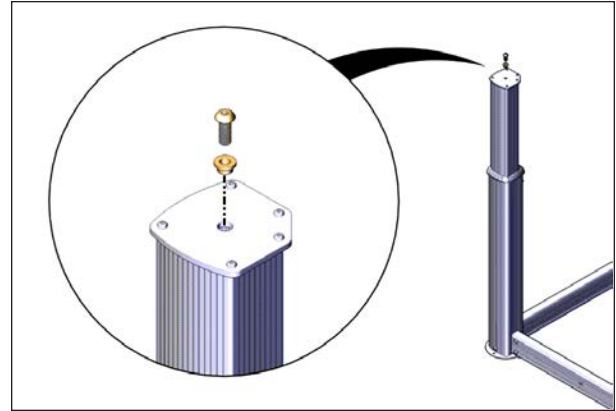

FIGURE 45: FASTEN THE SLEEVE TO THE JACK
23. Install the previously removed 3/8" x 1" Allen screw on the jacks with a 7/32" (5.5 mm) socket. The narrow part of the bushing must be facing downwards, see Figure 45.